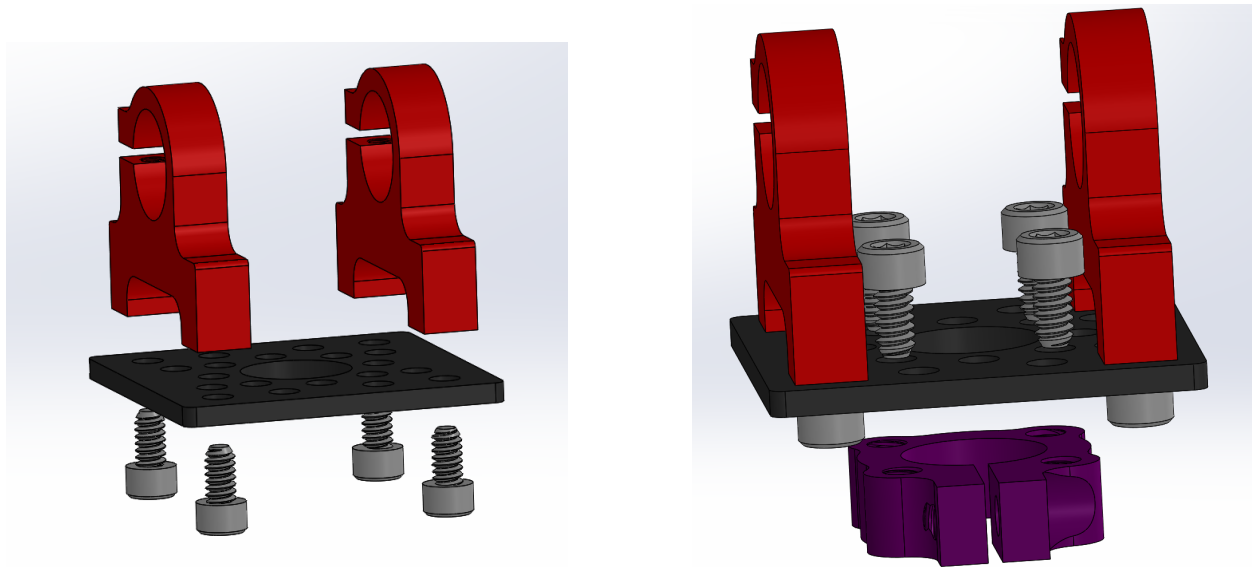

Figure 5: Attaching clamping hub
1. **Attach Clamping Hubs:** Use screws **B1** to attach the bottom tapped clamping hubs **S20** to the single pattern bracket **S8**. Then use screws **B1** to attach the 0.5 inch clamping hub **S13** to the bottom of the pattern bracket (Figure 5).